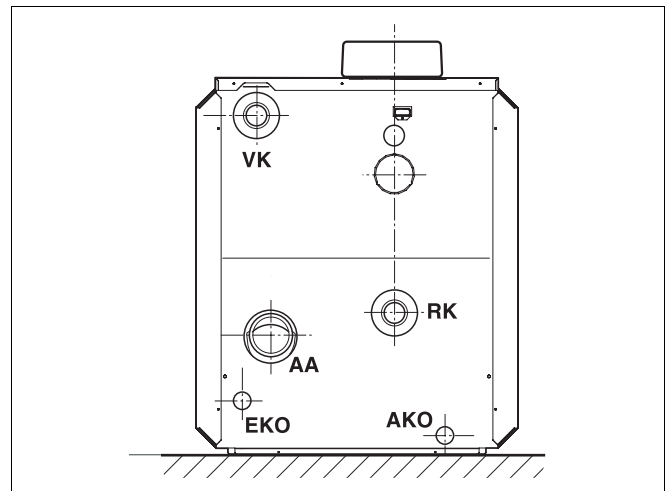
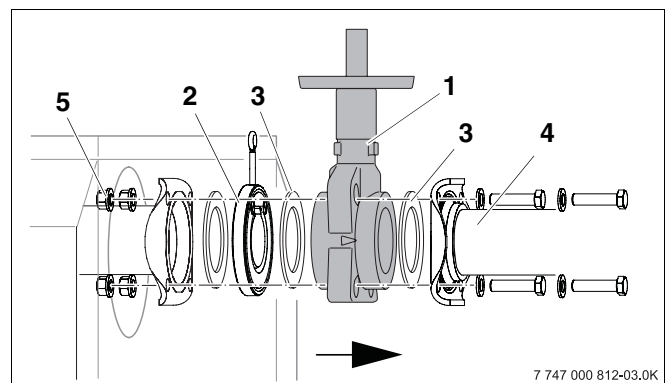

Fig. 4 Logano GB312 boiler connections
Fig. 8 Fitting the shut-off valves
The connections must only be connected to the positions shown in Fig. 4.
Legend for Fig. 4
The shut-off valves (Fig. 8, **Item 1**) are not part of the scope of supply and must be ordered separately. A shut-off valve can be connected to every flow and return.
The check valve (Fig. 8, **Item 2**) remains fitted to the flow according to the flow direction.
- Place gasket (Fig. 8, **Item 3**) and shut-off valve (Fig. 8, **Item 1**) on the check valve.
- Screw flow piece flange (Fig. 8, **Item 4**) onto the flow flange on the boiler, using four bolts and nuts (Fig. 4, **Item 5**).